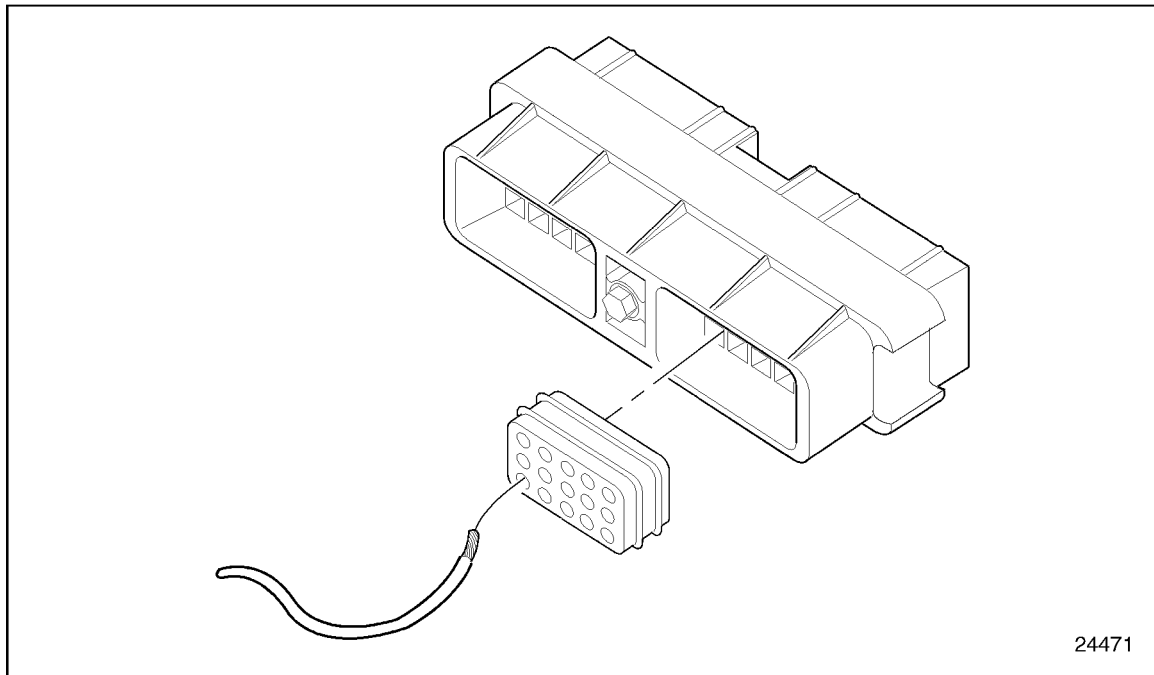

Figure 8-1 **Inserting Wire in Connector**
1. Position the cable through the seal and correct cavity of the connector. See Figure 8-1.